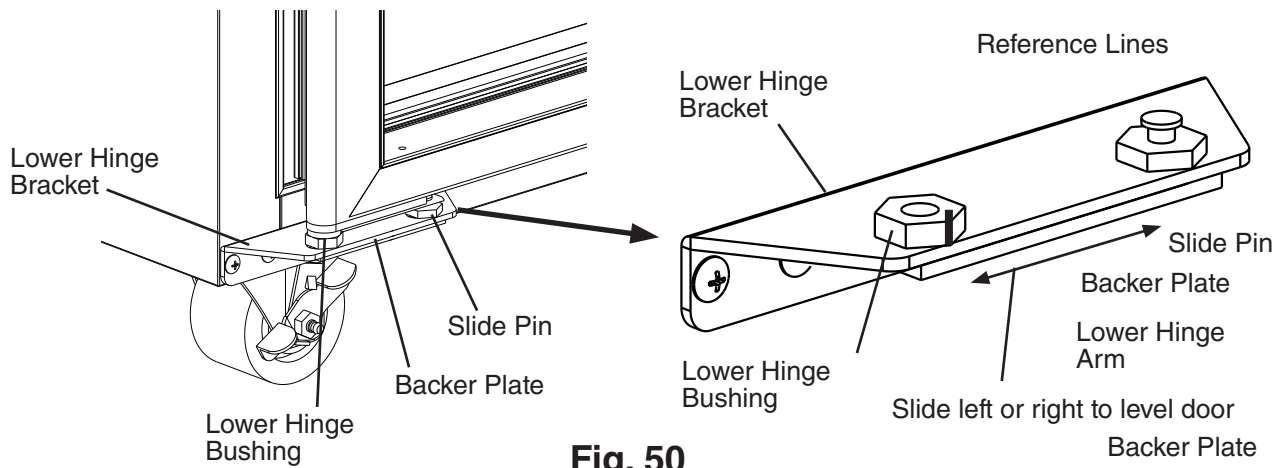

Fig. 50
- 20) Level the door by sliding the backer plate to the left or to the right, then tighten the slide pin and bottom hinge bushing with a wrench until it is tight. See Fig. 50. Next, mark a reference line on the bracket and bushing then tighten the fitting an additional 1/8 turn.